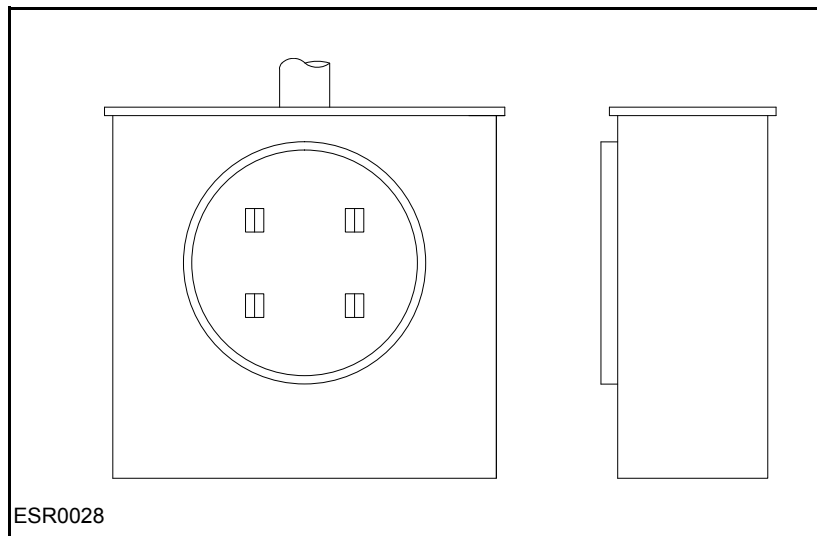

Figure 7-16: Residential Overhead Approved Meter Socket, 100 and 200 Amps
**Figure 7-16** shows a residential overhead approved meter socket for 100 and 200 amp maximum, single-phase service.